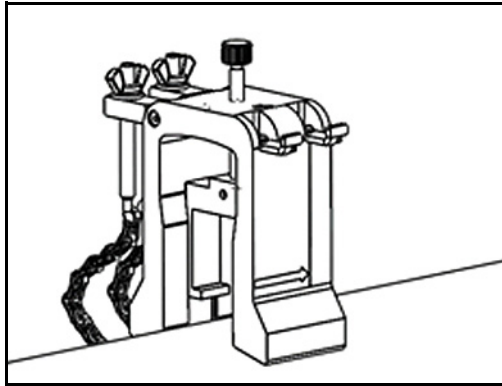

Figure 36: Yoke Placement On Top of Pipe
2. Place the yoke on the top of the pipe (see *Figure 36* below). If the required transducer spacing is <305 mm/12 in., the yoke chain must be placed within the clamping fixture as shown.